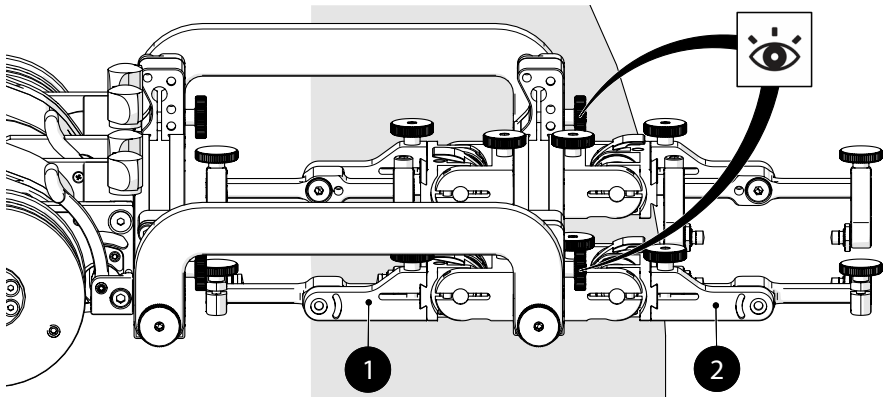

Fig. 220 - Position primary and secondary probe holders
3. Mount the low profile probe holder frame to the crawler (*see Swivel Mount on page 46 for additional details*). When mounting the low profile frame, ensure the attachment knobs (*Fig. 220*) are at the front (*non crawler side*).